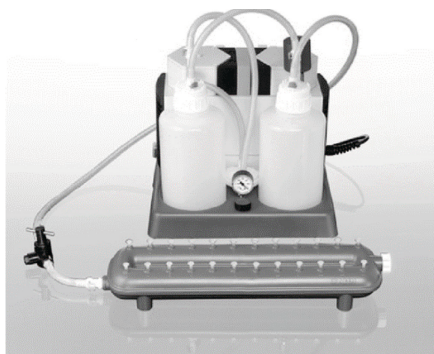

Figure 1. QIAvac 24 Plus, QIAvac Connecting System, and Vacuum Pump
QIAamp Mini columns are processed on the QIAvac 24 Plus using disposable VacConnectors and reusable VacValves. VacValves (optional) are inserted directly into the luer slots of the QIAvac 24 Plus manifold and ensure a steady flow rate, facilitating parallel processing of different sample volumes. They should be used if sample flow rates differ significantly to ensure consistent vacuum. VacConnectors are disposable connectors that fit between QIAamp Mini columns and VacValves or between the QIAamp Mini columns and the luer slots of the QIAvac 24 Plus. They prevent direct contact between the spin column and VacValve during purification, thereby avoiding any cross-contamination between samples. VacConnectors are discarded after a single use. Due to the large solution volumes used, the QIAvac Connecting System (or a similar setup with waste bottles) is required (see Figure 1).
- The vacuum pressure is the differential pressure between the inside of the vacuum manifold and the atmosphere (standard atmospheric pressure 1013 mbar or 760 mm Hg) and can be measured using the QIAvac Connecting System (see Figure 1). The protocols require a vacuum pump capable of producing a vacuum of -800 to -900 mbar (e.g., QIAGEN Vacuum Pump). Higher vacuum pressures must be avoided. Use of vacuum pressures lower than recommended may reduce nucleic acid yield and purity and increase the risk of clogged membranes.